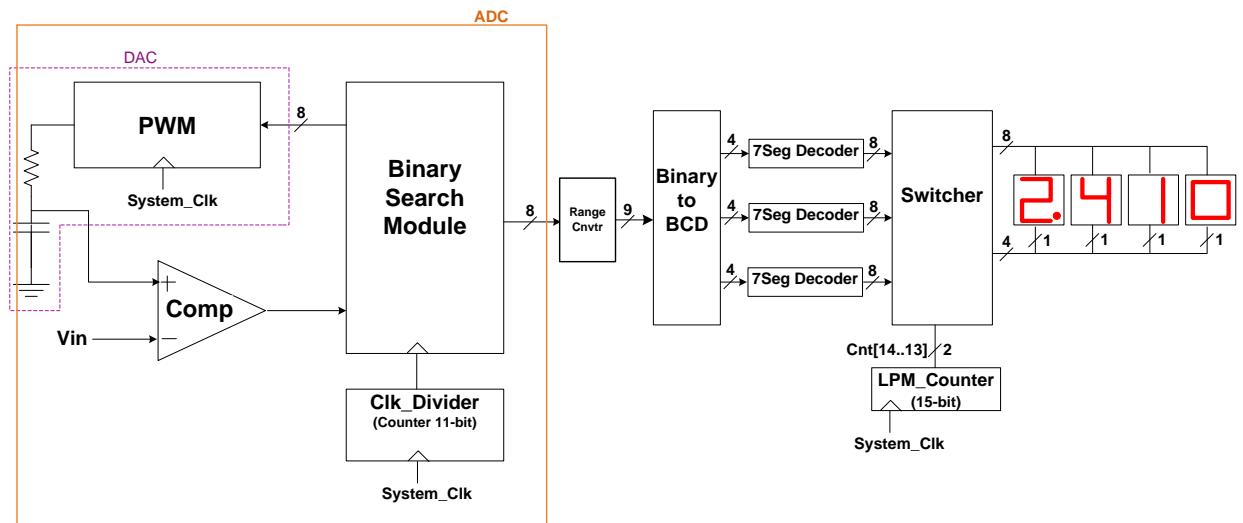

Figure 5. Overall block diagram of digital voltmeter
The overall schematic of the digital voltmeter is shown in Figure 5.
1. Implement the binary search module using Verilog. Perform a simulation to verify its correctness. Do not include the clock divider in this simulation. (Figure 5)
9. Create the top level schematic (Figure 5).